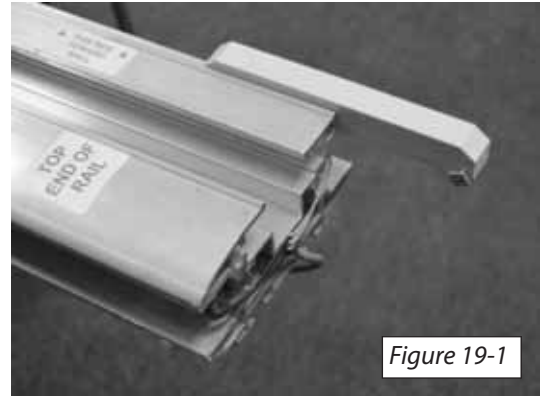

Figure 19-1
2. Insert the upper limit cam into the end of the rail. *[Figure 19-1 and 19-2]*